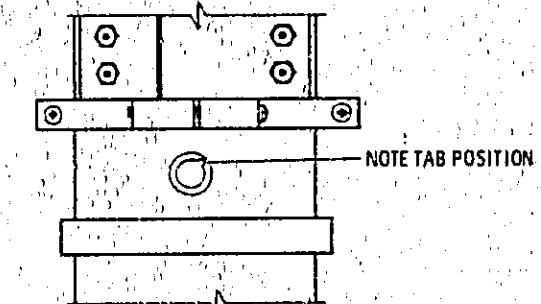

Figure 8-75. RF Oscillator Transistor Orientation
4. Re-insert transistor as shown in Figure 8-75. Replace transistor cap (21) including the two RFI plugs (22 and 23).
5. Connect power meter and sensor (HP 435A/8482A) to the Divider/Filter Buffer Amplifier output, A3A1J1 (32). Measure output power while tuning oscillator across band — it should always be within +0.5 to +4.5 dBm. If not, perform adjustment in paragraph 5-38.